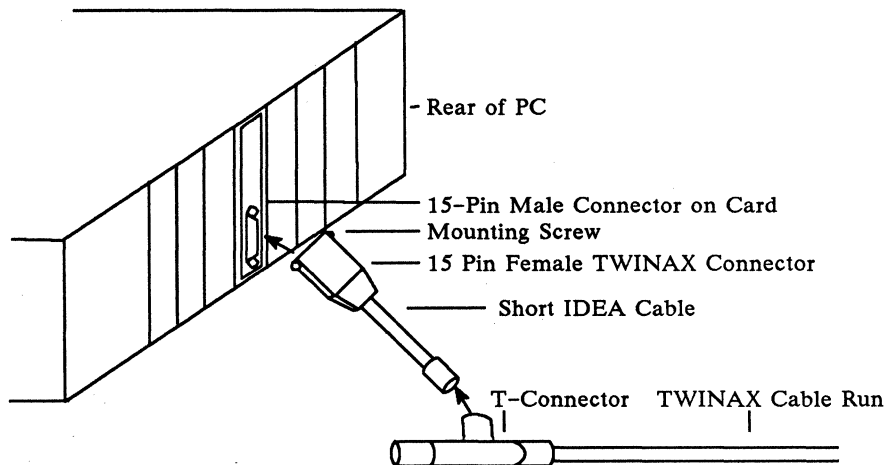

Figure 4-2: Connecting the Twinaxial Cable
1. Locate the 15-pin male connector on the IDEA card. This connector protrudes from the rear panel of the PC (Figure 4-2). Attach this connector to the 15-pin female twinaxial cable connector provided by IDEA. Tighten the two mounting screws using a flat blade screwdriver to turn the screws clockwise.
In order to run the TWINDIAG Diagnostic Program, set the termination switch to the TERM position (see Figure 4-2). Note that the following files are required and should be copied to the hard disk: